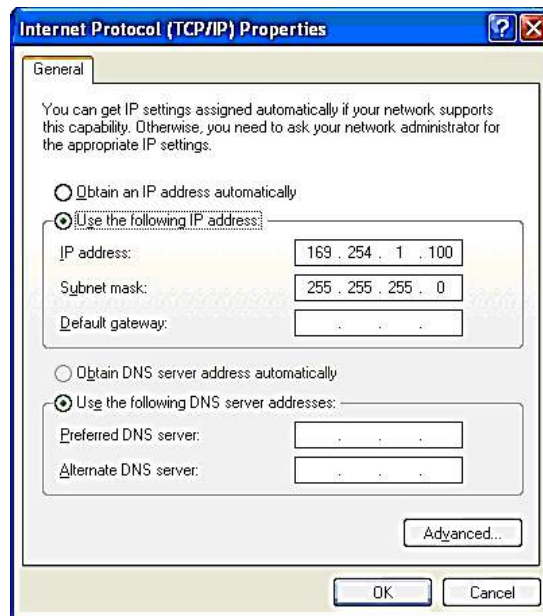

Figure 12
- h. Add the "IP address" and "Subnet mask" as shown in Figure 12.
- i. Add the "IP address" and "Subnet mask" as shown in Figure 12.